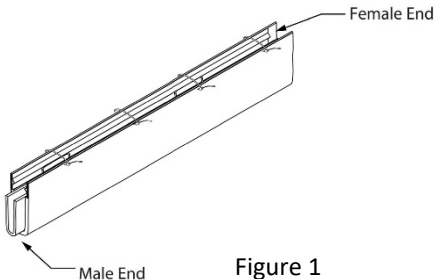

Figure 1
1. Remove product from packaging and identify both male and female ends, *figure 1*. Straighten male end if required before installation into expansion joint.